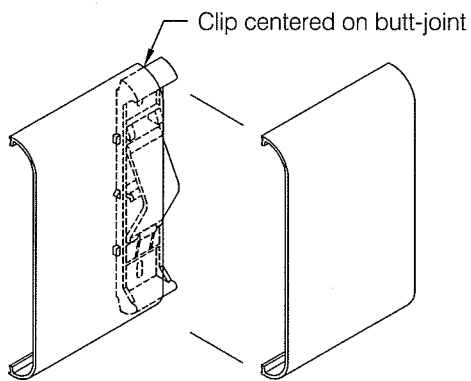

fig 7
- At each WGV-8 cover butt-joint, see **fig 7**
Step 7: Measure between accessories and cut the WGV-8 vinyl cover. Miter cut the WGV-8 for all inside corners and special angles not accommodated by the molded accessories. Install a Red-E-Clip® retainer centered at each WGV-8 butt-joint location, see **fig 7**.